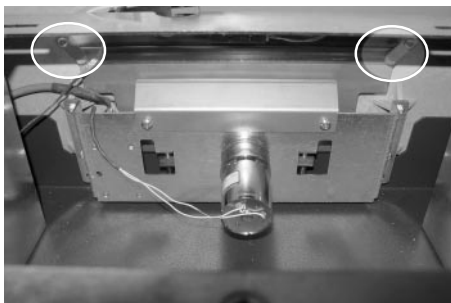

Figure 3-44. Loosen the two screws (highlighted in white circles) that secure the shutter assembly face plate to the control panel.
6. Refer to Figure 3-44. Loosen the two screws that secure the tabs that hold the shutter assembly face plate to the control panel. Adjust the tabs so they are position away from the face place. Tighten the screws to prevent the tabs from falling back onto the face plate.
3. Refer to Figure 3-44. Loosen the two screws that secure the tabs that hold the shutter assembly face plate to the control panel. Adjust the tabs so they are position on face place. Tighten the screws so they secure the face plate to the control panel.